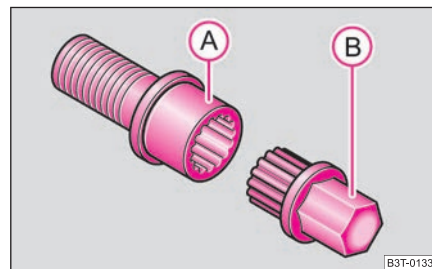

Fig. 206 Safety wheel bolt
- Insert the adapter (B) with its toothed side fully into the inner tothing of the safety wheel bolt (A) right down in such a way that only the outer hexagon is jutting out ⇒ fig. 206.
- Insert the wheel wrench fully onto the adapter (B).